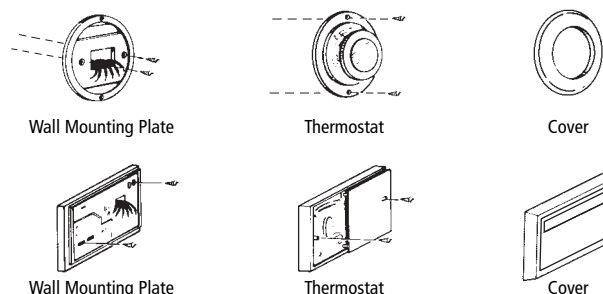

Figure 1
- Remove existing thermostat cover and thermostat. See Figure 1. Some thermostats will have screws or other locking devices that must first be removed. Once the wall mounting plate is exposed, look for wires.
If wires are not visible, they may be connected to the back of the wallplate. Again, look for screws, tabs, etc. Some models have doors that open to expose wires and mounting screws. See Figure 1.